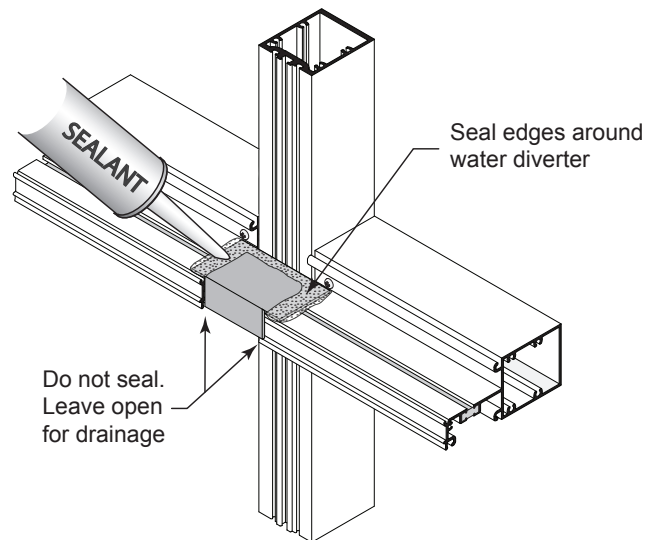

Fig.52.3
- E. Seal around edges of water diverter. THIS IS A CRITICAL SEAL. Do not seal front of water diverter. See **Fig 52.3**